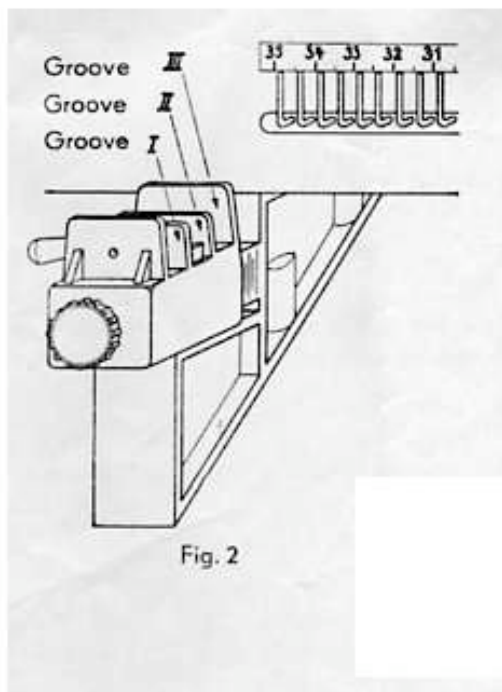

Fig. 2
- B. When casting on, place the Wooden Comb into **Groove I**. (Fig. 2.)
D. The comb with the cast on stitches is now placed into **Groove III** see. (Fig. 2). Observe that the comb is placed correctly in the groove so that the pulling pins can push through the comb pins when operating the Black Knob.